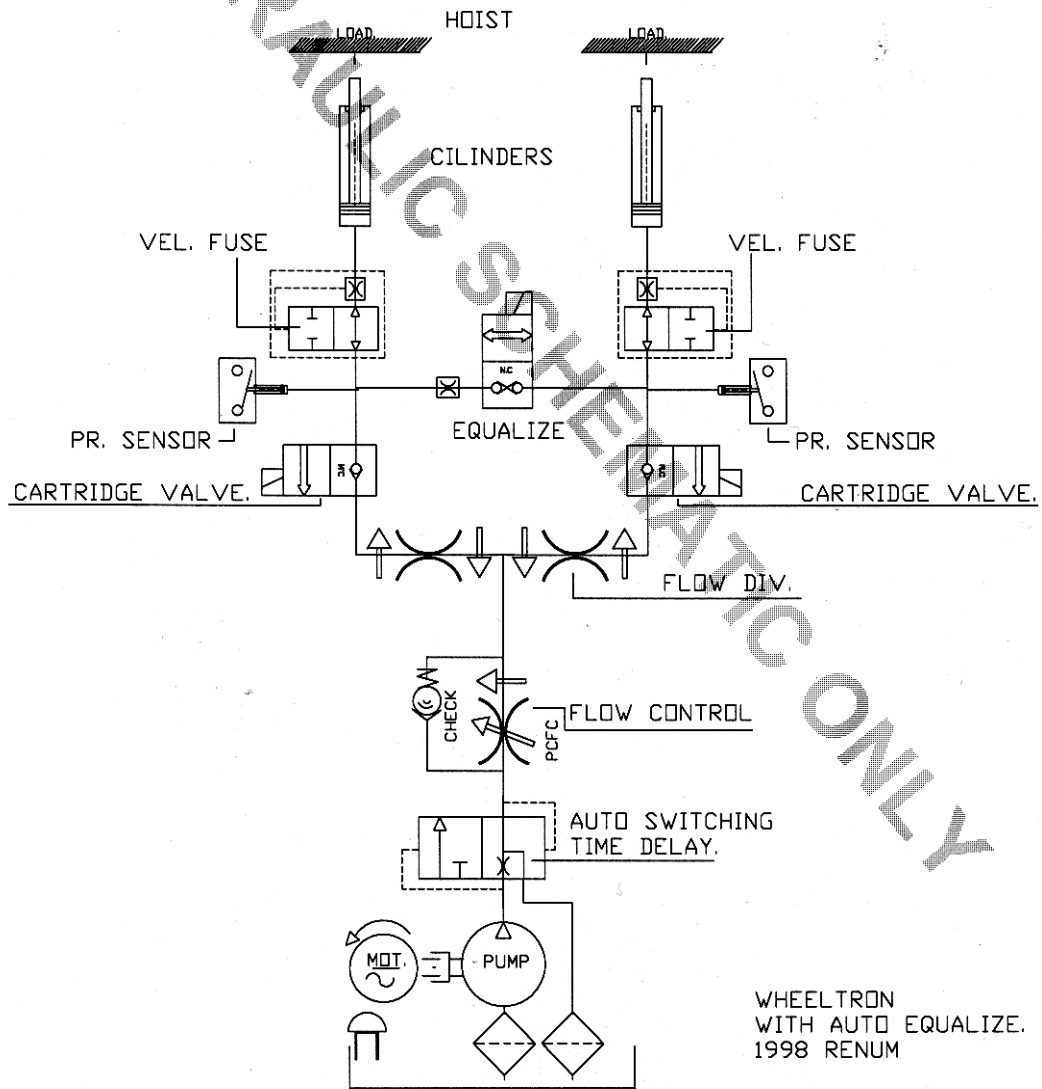

Figure 4 - Hydraulic schematic
Please refer to Figure 4, the electrical diagram. Note: All electrical connections have been made and customer power supply can be connected using the 12" cable extending from the back of the contactor box.
1. Once the main electrical power supply has been connected, turn the equalization adjustment fully clockwise. The equalization adjustment is located on the powerpack controller board, see Figure 4.